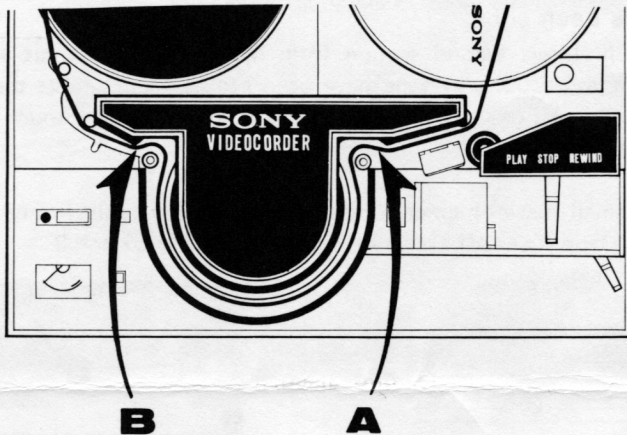

Fig. 2. Mark the tape at points "A" and "B".
2. Using a marking pencil, or a piece of splicing tape, mark a small vertical line directly on the tape (outside surface) at point "A" shown in Fig. 2.
5. Mark a small vertical line on the outside surface of the tape at point "B" in Fig. 2.